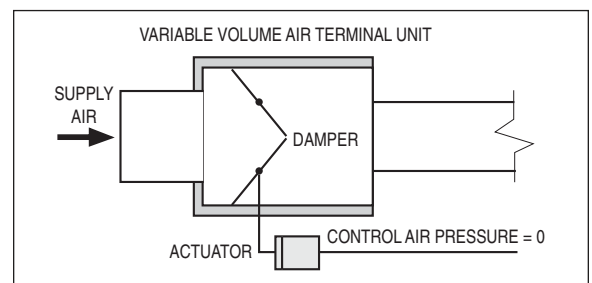

Figure 21. Normally Closed Damper
**Normally Closed** indicates the fail safe position of the damper in a typical pneumatic system. When the control air pressure is removed or fails, the damper is closed by the actuator spring. Control air pressure is required to oppose the spring and open the damper or valve. (Figure 21).